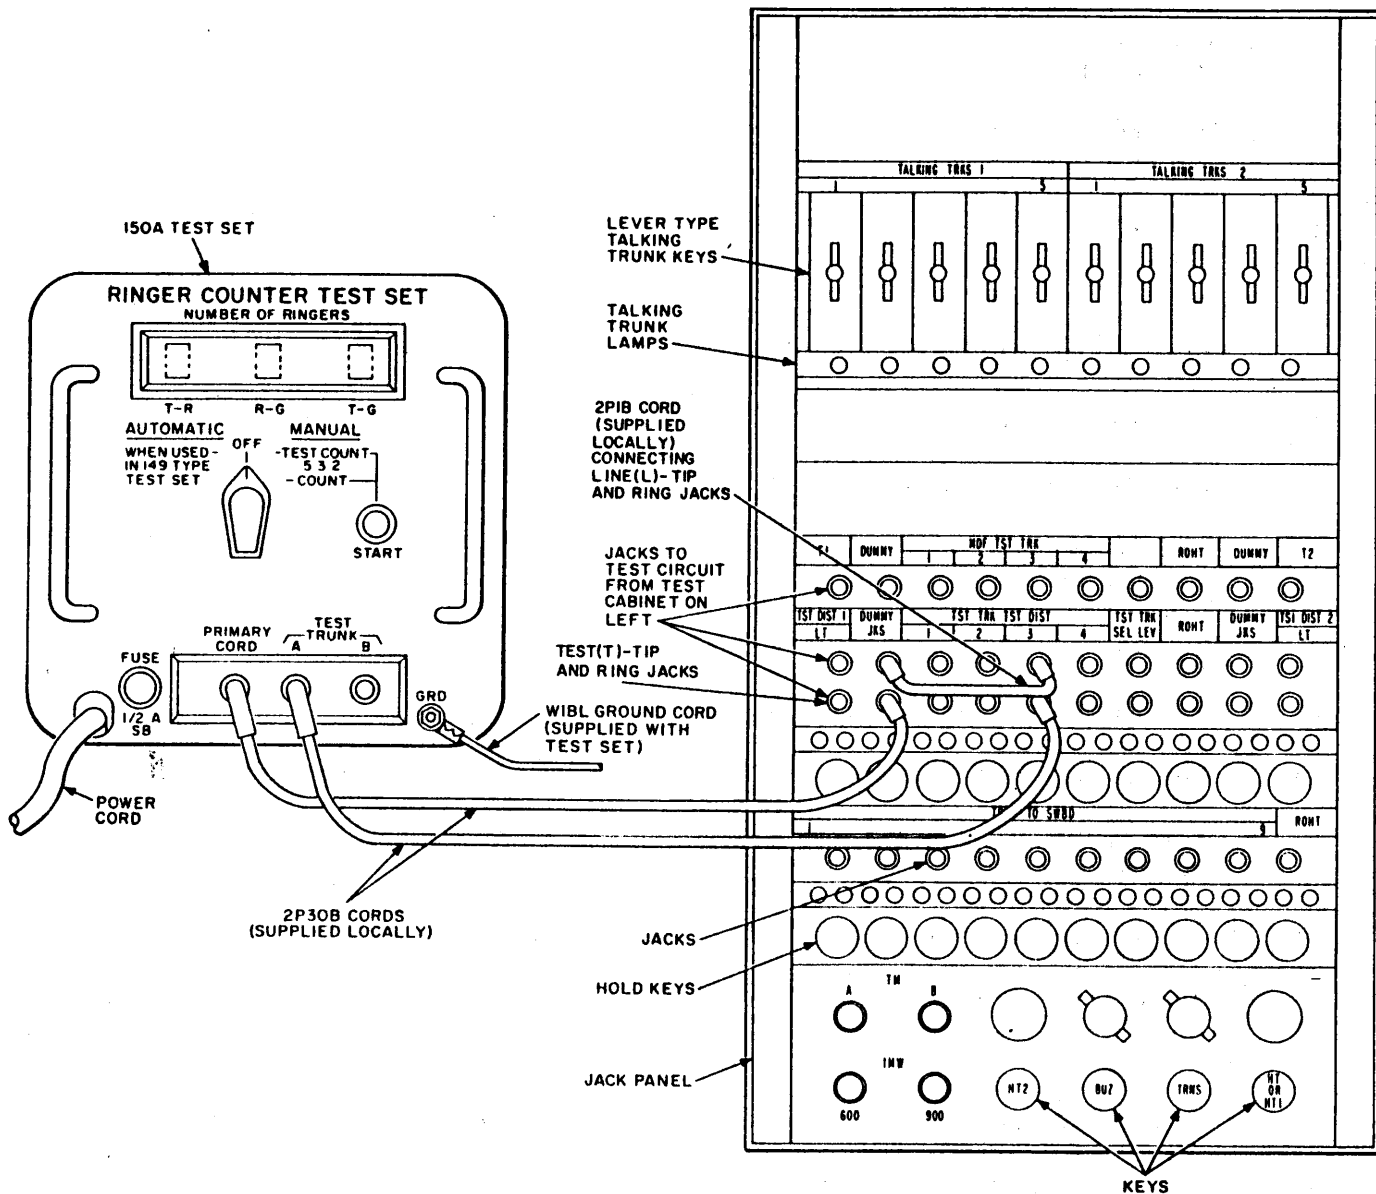

Fig. 7—Typical Connections for 150A Ringer Counter Test Set and Jack Panel for No. 3 Local Test Cabinet—Arranged for Use With Test Distributor Jacks
2	Connect a 2P1B (2-conductor) cord from the selected TST DIST line (L) jack to corresponding jack of the test circuit (Fig. 7 and Table A).
3	Connect a 2P30B cord from the PRIMARY CORD jack on the RCTS to the test (T) jack of the test circuit (Fig. 7).
4	Connect a 2P30B cord from the TEST TRUNK A jack on the RCTS to the selected TST DIST test (T) jack (Fig. 7). This jack is the mate to the jack selected in Step 2.